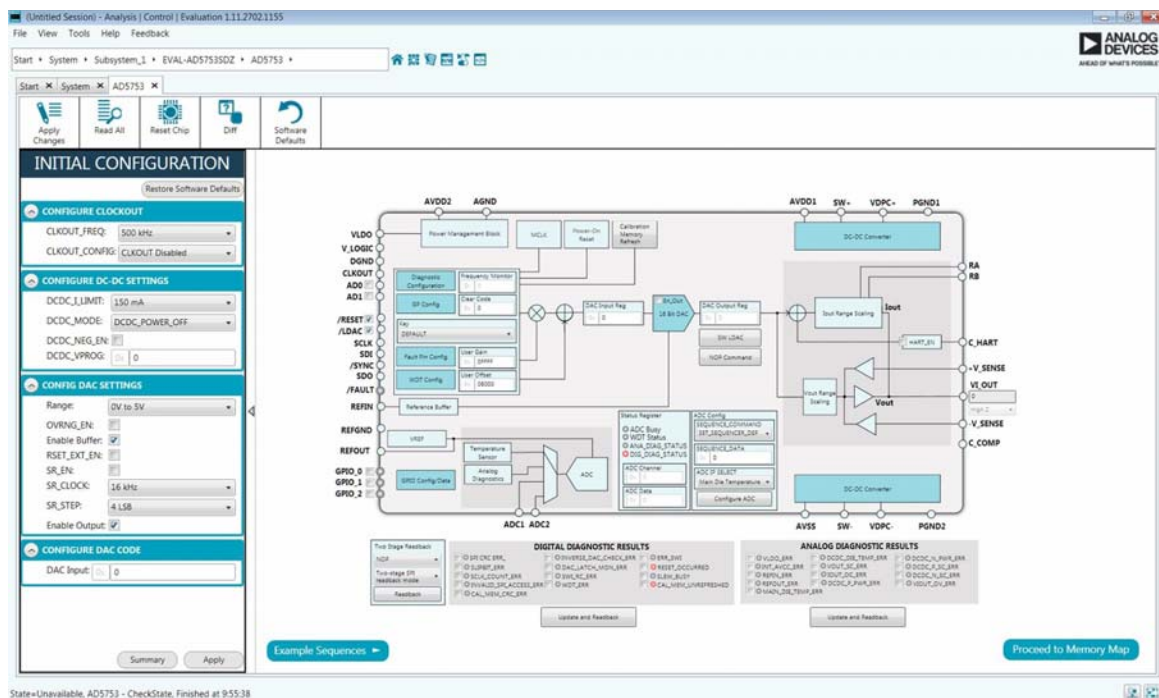

Figure 7. AD5753 Block Diagram in ACE Software
- Double-click EVAL-AD5753SDZ to open the AD5753 block diagram (see Figure 7). The INITIAL CONFIGURATION menu appears on the left side of the window. Several register settings can be configured under this menu, and are written to the device in the appropriate order. The **DIG\_DIAG\_STATUS**, **RESET\_OCCURED**, and **CAL\_MEM\_UNREFRESHEDLED** indicators are highlighted red. Write the initial configuration values to clear the error flags. If the device is power cycled, or if the USB cable is disconnected and reconnected while the ACE software is open, contact with the EVAL-AD5753SDZ is lost. If contact is lost, click the **System** tab, click the USB symbol on the EVAL-AD5753SDZ, and then click **Acquire** to restore communication with the EVAL-AD5753SDZ.